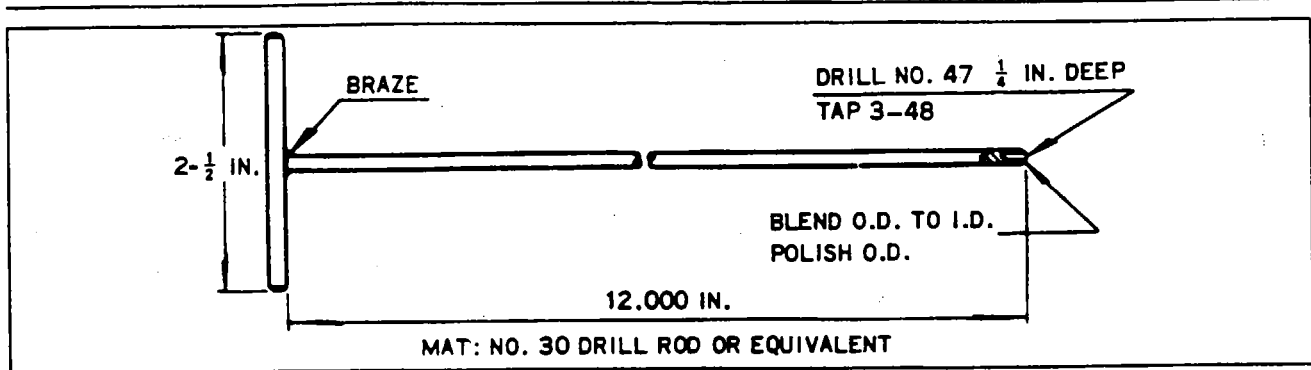

Figure 8-21. Assembly Tool
- (a) Fabricate a tool as shown in Figure 8-21 for installing the insulating sleeves over cable terminals.